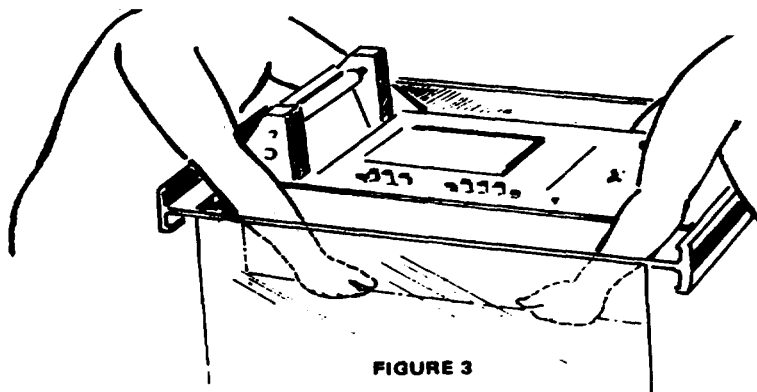

FIGURE 3
- e. With one (1) person at each end of the recorder as shown in Figure 3, grasp the recorder securely and lift it straight up and out of the cart.